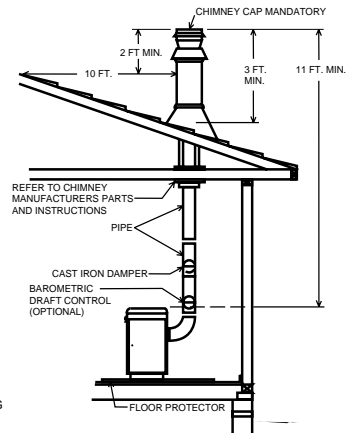

Fig. 6
5. If the fire burns well, but sometimes smokes or burns slowly, it may be caused by the chimney top being lower than another part of the house or a nearby tree. The wind blowing over a house or a tree falls on top of the chimney like water over a dam, beating down the smoke. The top of the chimney should be at least 3 feet higher than any point of the roof within 10 feet (Fig. 6).